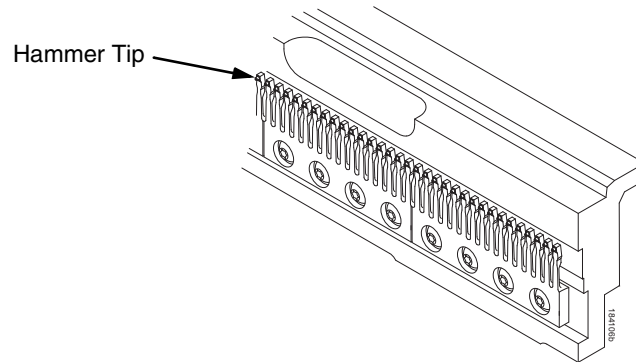

Figure 6. Cleaning the Hammer Tips
15. Place the shuttle so that the base sits flat on the work surface. Use the brush provided to remove as much debris as possible from the hammer tips, brushing in a downward direction (Figure 6.). Rotate the shuttle 90° away from you and repeat the brushing this time working from the center of the shuttle outward towards both ends.